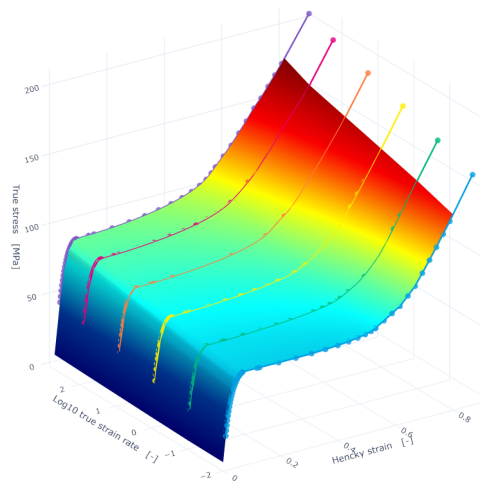

Figure 2: Rate-dependent true stress/strain data of Makrolon® 6487
- Strain rate sensitivity: Impact loading (strain rates up to 10^4 s^{-1}) significantly increases yield strength compared to quasi-static conditions, while strain at failure remains nearly constant (Figure 2)